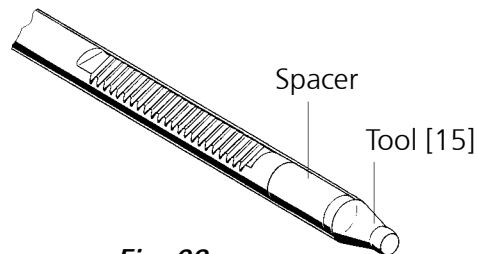

Fig. 28
Put the spacer and tool [15] on the rack (3) as shown in *Fig. 28*.